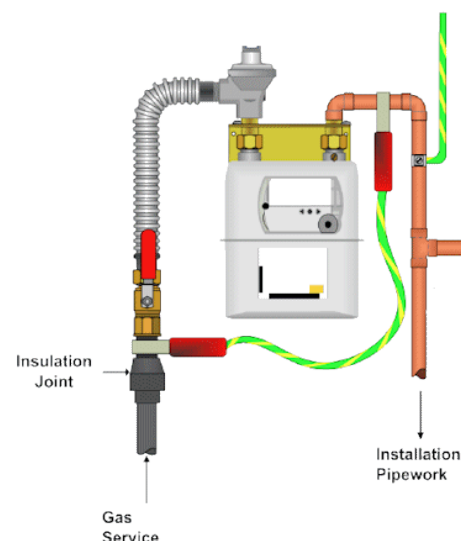

Figure O3 – Temporary bonding at the Meter
- If an insulation joint (IJ) is fitted, the TCB must not bridge the IJ.
- Attach TCB to the cleaned sections of the installation pipe work. See Figure O3.